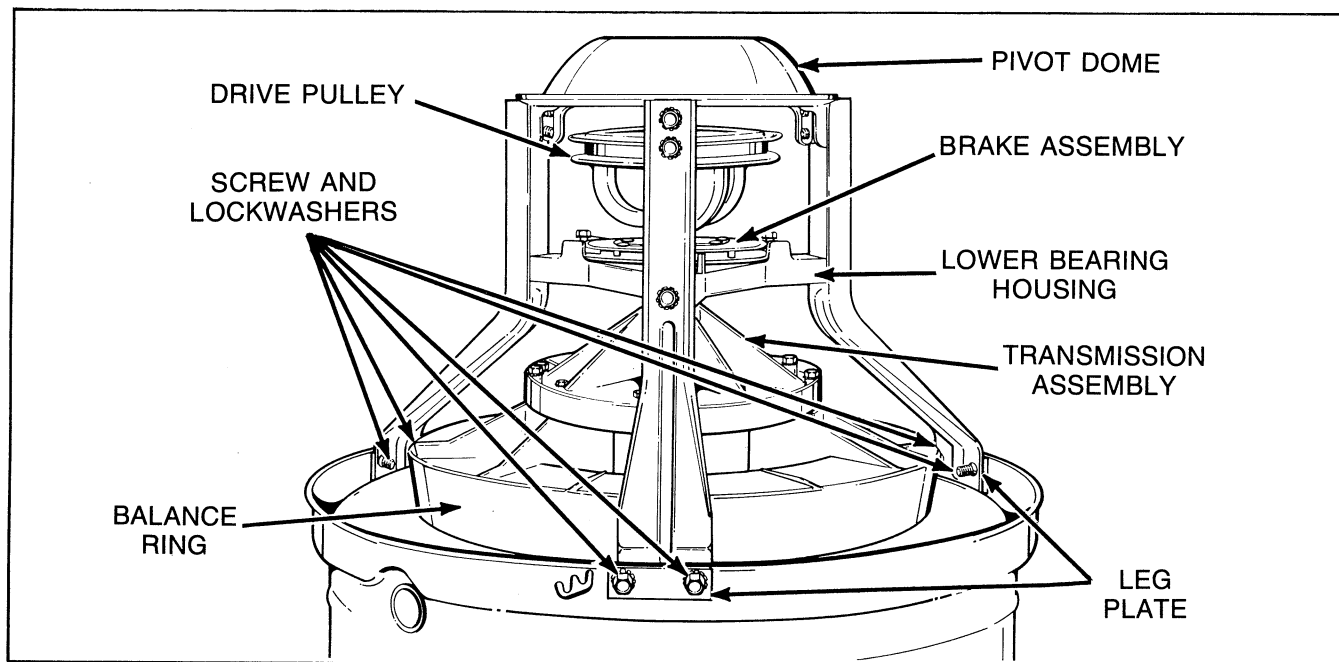

Figure 33
- s. Remove screws and lockwashers holding each support leg to outer tub, *Figure 33*. Then lift transmission, balance ring and pivot dome off tub.
- v. Remove screws and lockwashers holding each support leg to outer tub, *Figure 33*, then lift pivot dome, brake assembly and lower bearing housing off transmission tube.